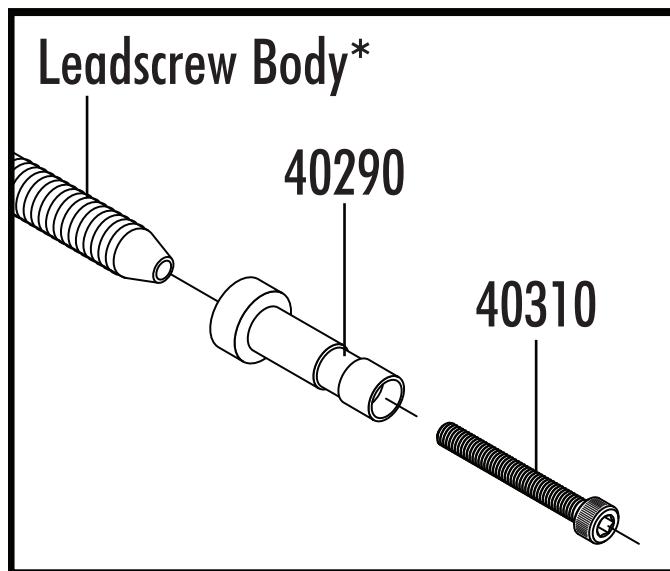

Figure 3
3. Break loose the 5-40 screw (P/N 40310) that holds the screw adapter (P/N 40290) onto the end of the leadscrew. Remove the screw (See Figure 3 and Photo 30).